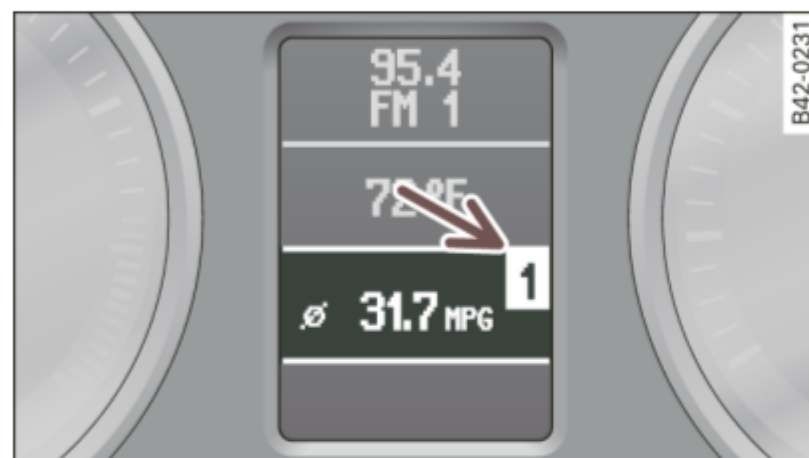

Fig. 10 Trip computer 1
You can tell which memory level is currently active by the number in the display ⇒ fig. 10. The data from the single-trip memory (memory level 1) is being displayed if a **1** appears in the display. If a **2** is shown, then the data from the total-trip memory is being displayed (memory level 2).
- Tap the **Reset** button (B) until the trip computer (memory level 1 or 2) appears in the display ⇒ page 21, fig. 10.